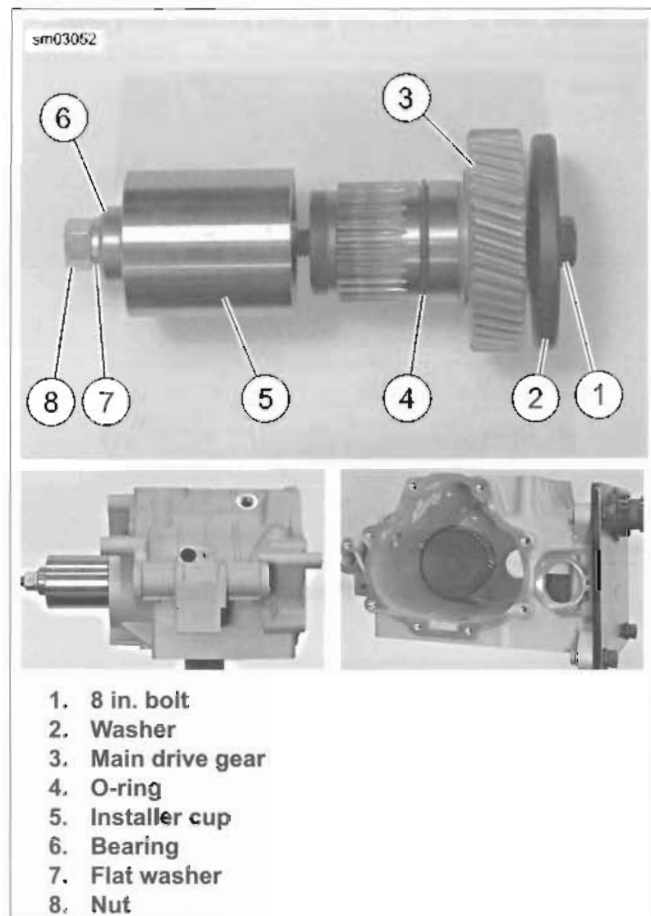

Figure 6-43. Installing Main Drive Gear (Typical)
See Figure 6-43. Make sure new O-ring (4) is installed onto main drive gear (3). Lubricate O-ring with SCREAMIN' EAGLE ASSEMBLY LUBE before installing drive gear into transmission case.
1. See Figure 6-43. Apply a light coat of graphite lubricant to the threads of 8 IN. BOLT (Part No. HD-35316-4A) (1) and insert through WASHER (Part No. HD-35316-7) (2) and main drive gear (3). Insert assembly into transmission case, through main drive gear bearing.
2. At outside of case, place INSTALLER CUP (Part No. HD-35316-12) (5), BEARING (6), FLAT WASHER (7) and NUT (8) over end of bolt.